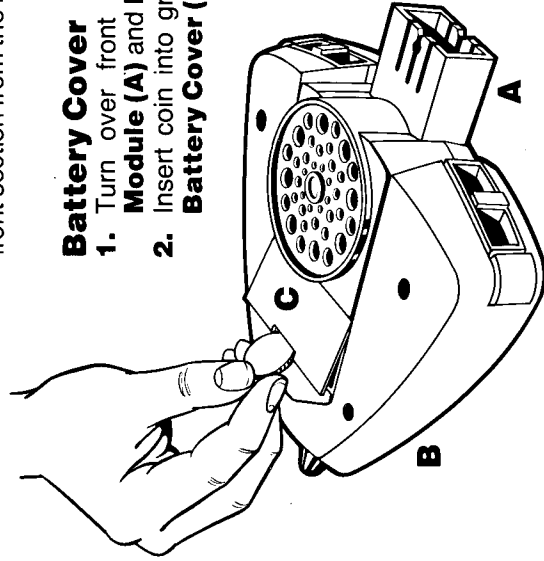
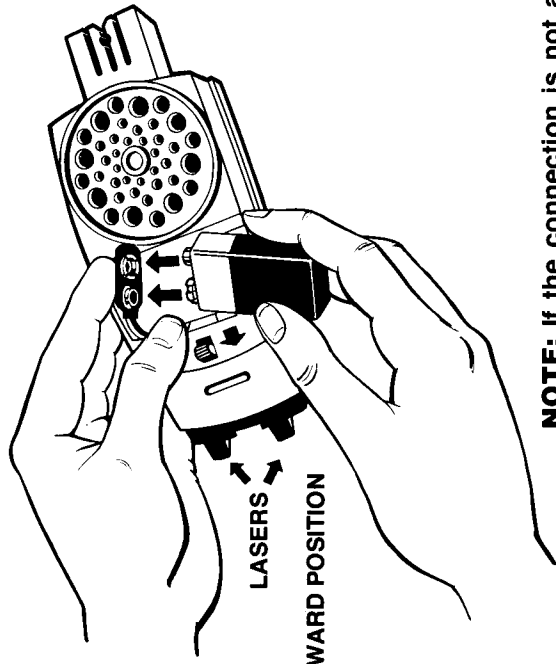

FIG. 1
FIG. 2
1. Turn over front section, consisting of the **Energy Module (A)** and **Front Hull (B)**.
2. Insert coin into groove as shown in FIG. 1 to remove **Battery Cover (C)**.
2. With ON/OFF switch forward toward lasers, attach one 9-volt battery (alkaline type recommended) to the battery clip. Make sure connection is properly joined as shown in FIG. 2.
1. Insert coin into groove as shown in FIG. 1 to remove **Battery Cover (C)**. Remove old battery and replace with a fresh one as shown in FIG. 2.